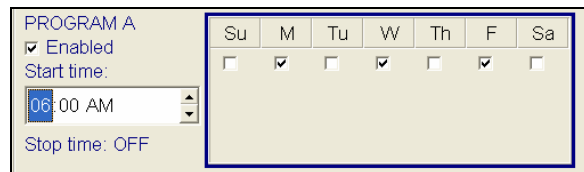

Figure 16.1.10A
- Click on the **Start time:** box and use the **UP** and **DOWN** arrows to set the time that you want this schedule to begin (Figure 16.1.10A).